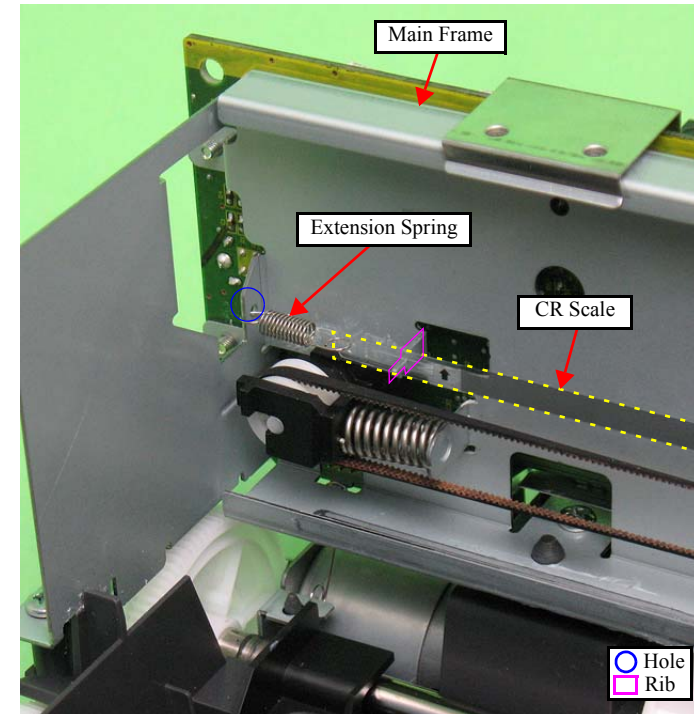

Figure 4-36. Removing the CR Scale (2)
- Make sure to confirm that the Extension Spring is not twisted, then install the eye of the spring to the hole of the Main Frame. (See Fig.4-36.)